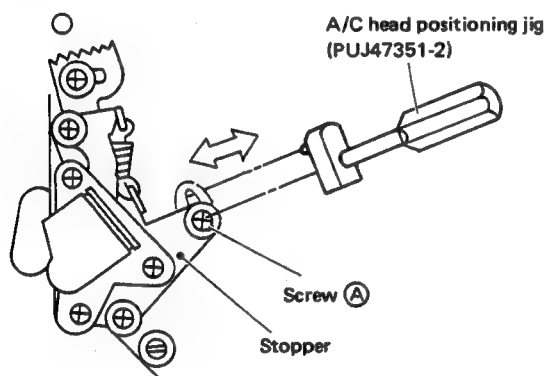

Fig. 2-62
3. Slightly loosen the screw (A) and set the A/C head positioning jig above the screw (A) for adjusting. (Fig. 2-62)
6. Tighten the screw (A) and again confirm the adjustment of Section 2.8.6 'A/C head position'.